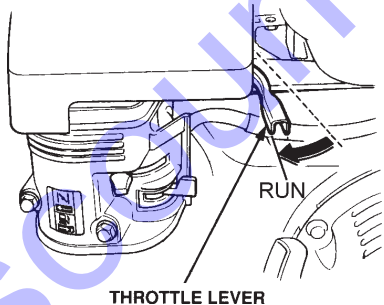

Figure 8. Throttle Lever (Run)
- To begin pumping, place the throttle lever (Figure 8) in the **"RUN"** position.